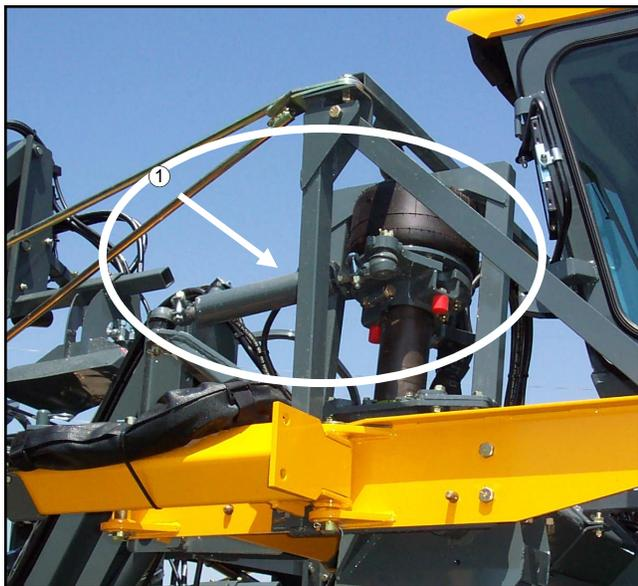

FIG 5.22
The full-time power steering system consists of a hydraulic steering motor (mounted on the end of the steering wheel shaft) which is connected to a pair of double-action steering cylinders (fig. 5.22, item 1) mounted to both of the front steering arms and outer leg weldments. This system is powered by one of the hydraulic dual gear pumps driven by the detasseler's engine. Since these gear pumps are sensitive to engine RPM (the higher the RPM the higher the oil flow), it is best to always operate the detasseler at full recommended RPM to ensure maximum steering responsiveness.